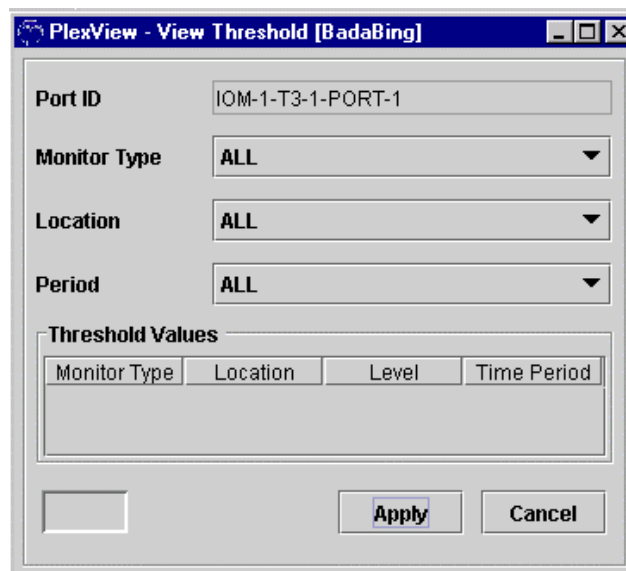

**Figure 5. Get PM Thresholds**
10. Retrieve the current threshold level of one or more monitored performance counts. Double-click *Switch*, *Switch name*, *Cards*, desired *IOM*, *Ports*, desired port, and *Ports*. Right-click desired port, select *get Threshold*. Refer to Figure 5.